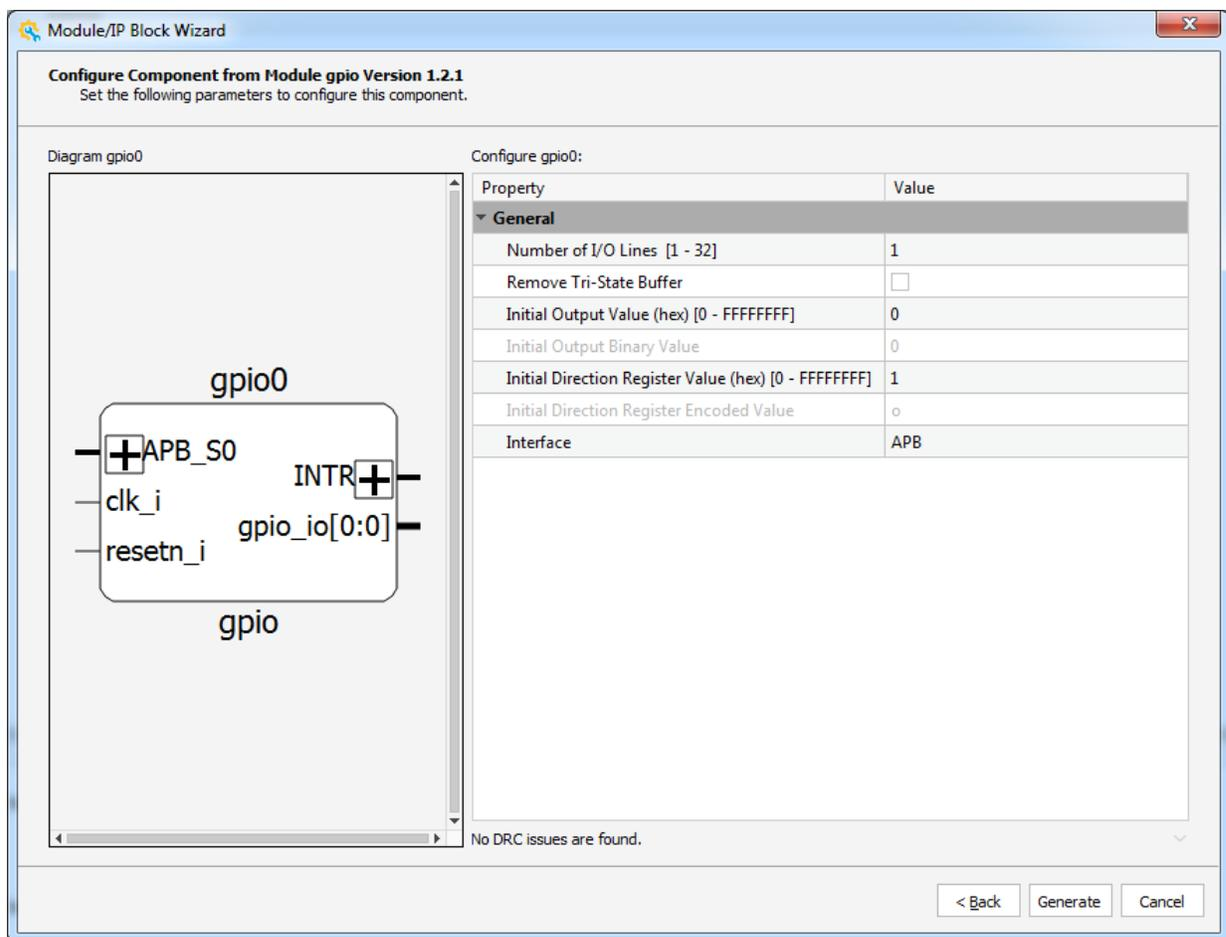

Figure 2.16. Module/IP Block Wizard - Configure Component from Module Gpio Version 1.2.1
3. Enter a component name at Component name area, such as gpio0. Click **Next**. Module/IP Block Wizard shows the **Configure Component from Module gpio** page (Figure 2.16).